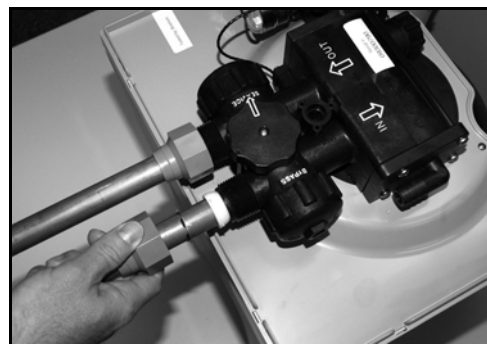

Figure 3: Connect Water Lines
- C. Attach the water lines to the appliance in compliance with all state and local, building, plumbing, and electrical codes. (See Figure 3.) Do NOT overtighten the connections on the plastic threads.